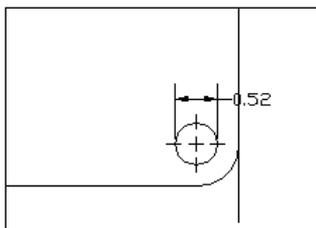

Figure 15-14: A narrow dimension using the Text option.
- ♦ **Text:** If there isn't enough room for the text and the arrows between the extension lines, the text goes outside and the arrows go between them. Figure 15-14 shows a dimension using this option.